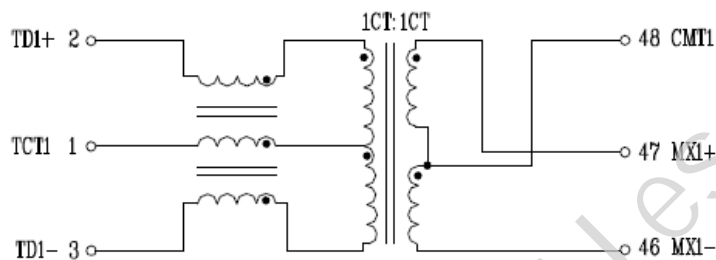

Figure 1. The Transformer with Common Mode chock at IC Side
- Recommend using the transformer with common mode chock at IC side for better EMI / ESD performance (see Figure 1)